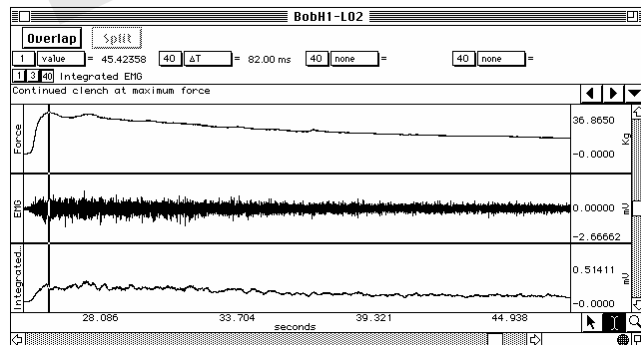

Fig. 2.12
- Use the **I-Beam** cursor to select a point of maximal clench force immediately following the start of the segment (Fig. 2.12).
The point selected should represent the maximal clench force at the start of Segment 2 (continuous maximal clench), as shown in Fig. 2.12.